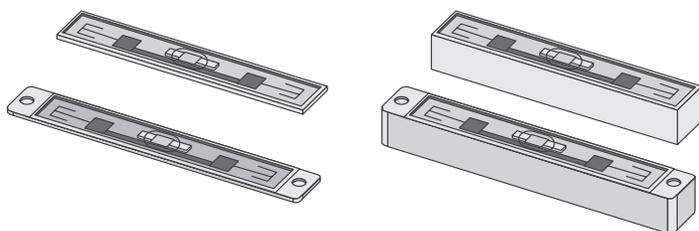

FIGURE 3.5 Encapsulated tags
RFID inlays are sometimes encapsulated inside a hard case. The case is made of RF translucent materials such as PET, Polypropylene (PP), Polyacetate (POM), Polycarbonate (PC), Acrylonitrile Butadiene Styrene (ABS), Polyamide 66P (A66), and Elastomère (EPDM). Tags are encapsulated to protect them from harsh environments. For example, a tag attached to a reusable plastic container (RPC) used in a food processing plant would encounter high temperature, pressure, and steam when the container is sanitized. These tags are used to track totes, carriers, and pallets in closed-loop systems and returnable assets in the supply chain. Some of the cases may provide a more rugged method of tag attachment, such as bolting or riveting to the object. In addition, the size and shape of the case may be designed to provide isolation from the object so the tag may be attached to metal objects. Figure 3-5 shows some samples of encapsulated tags.